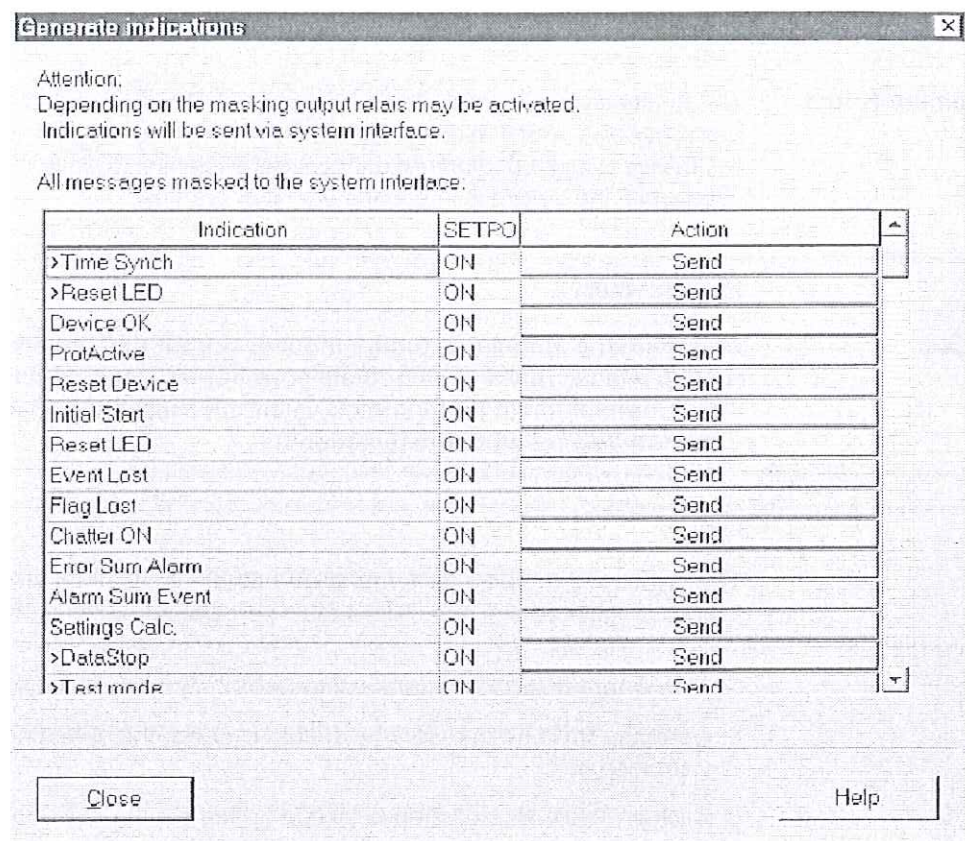

Figure 3-14 Dialogue box: Generate indications
- ☐ Double-click on **Testing Messages for System Interface** shown in the list view. The dialogue box **Generate Indications** opens (refer to Figure 3-14).